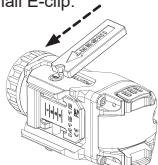

FIGURE 2.
2. Use the included E-clip tool (with the word REMOVE face down) to push the E-clip off the end of the cross bolt (Fig. 2 & 3), taking care not to lose the small E-clip.